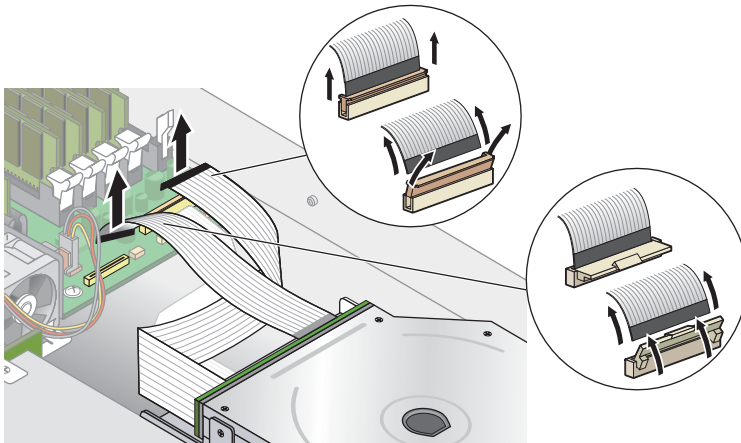

FIGURE 4-13 Uncabling the CD-ROM/DVD/Diskette Drive Assembly
2. Unfasten the CD-ROM/DVD and diskette drive ribbon cables from the motherboard (see FIGURE 4-13).